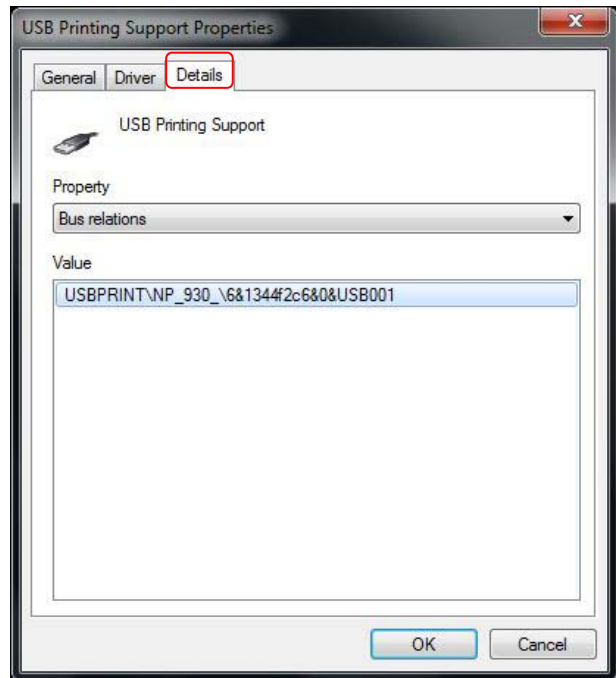

Figure 60: Device Properties - Details
- In the entry under "Value" the USB port number is shown. In the sample in Figure 60 the USB port number is "USB001"